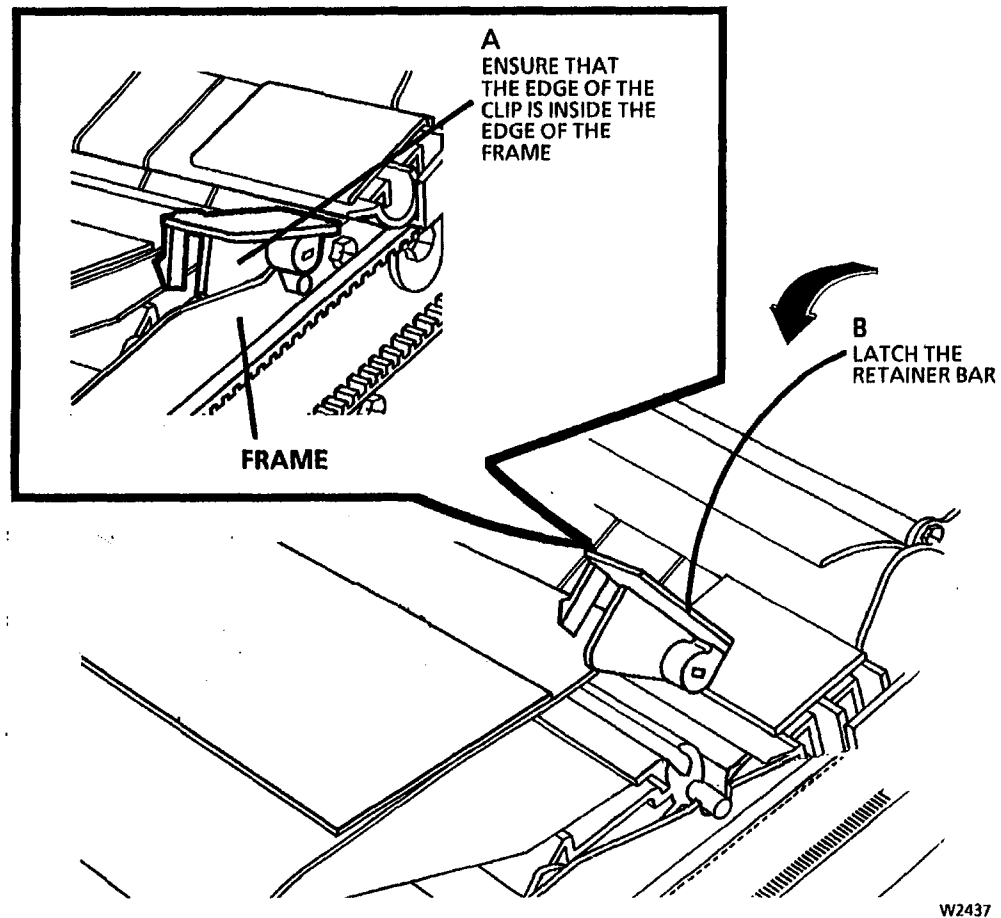

Figure 2. Reinstalling the Fabric Guide
1. (Figure 2): Reinstall the Fabric Guide.